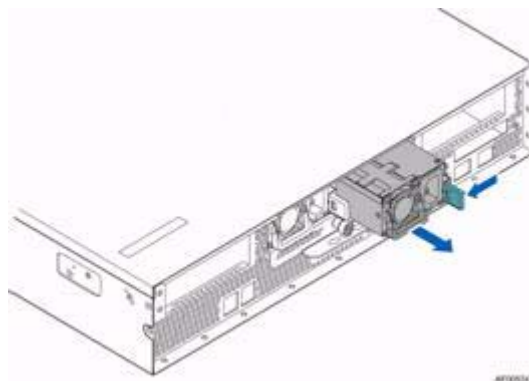

Figure 4-7 Removing a Power Supply Module
1. As shown in Figure 4-7, push the green latch in the direction shown while pulling the module out of the chassis by the handle.